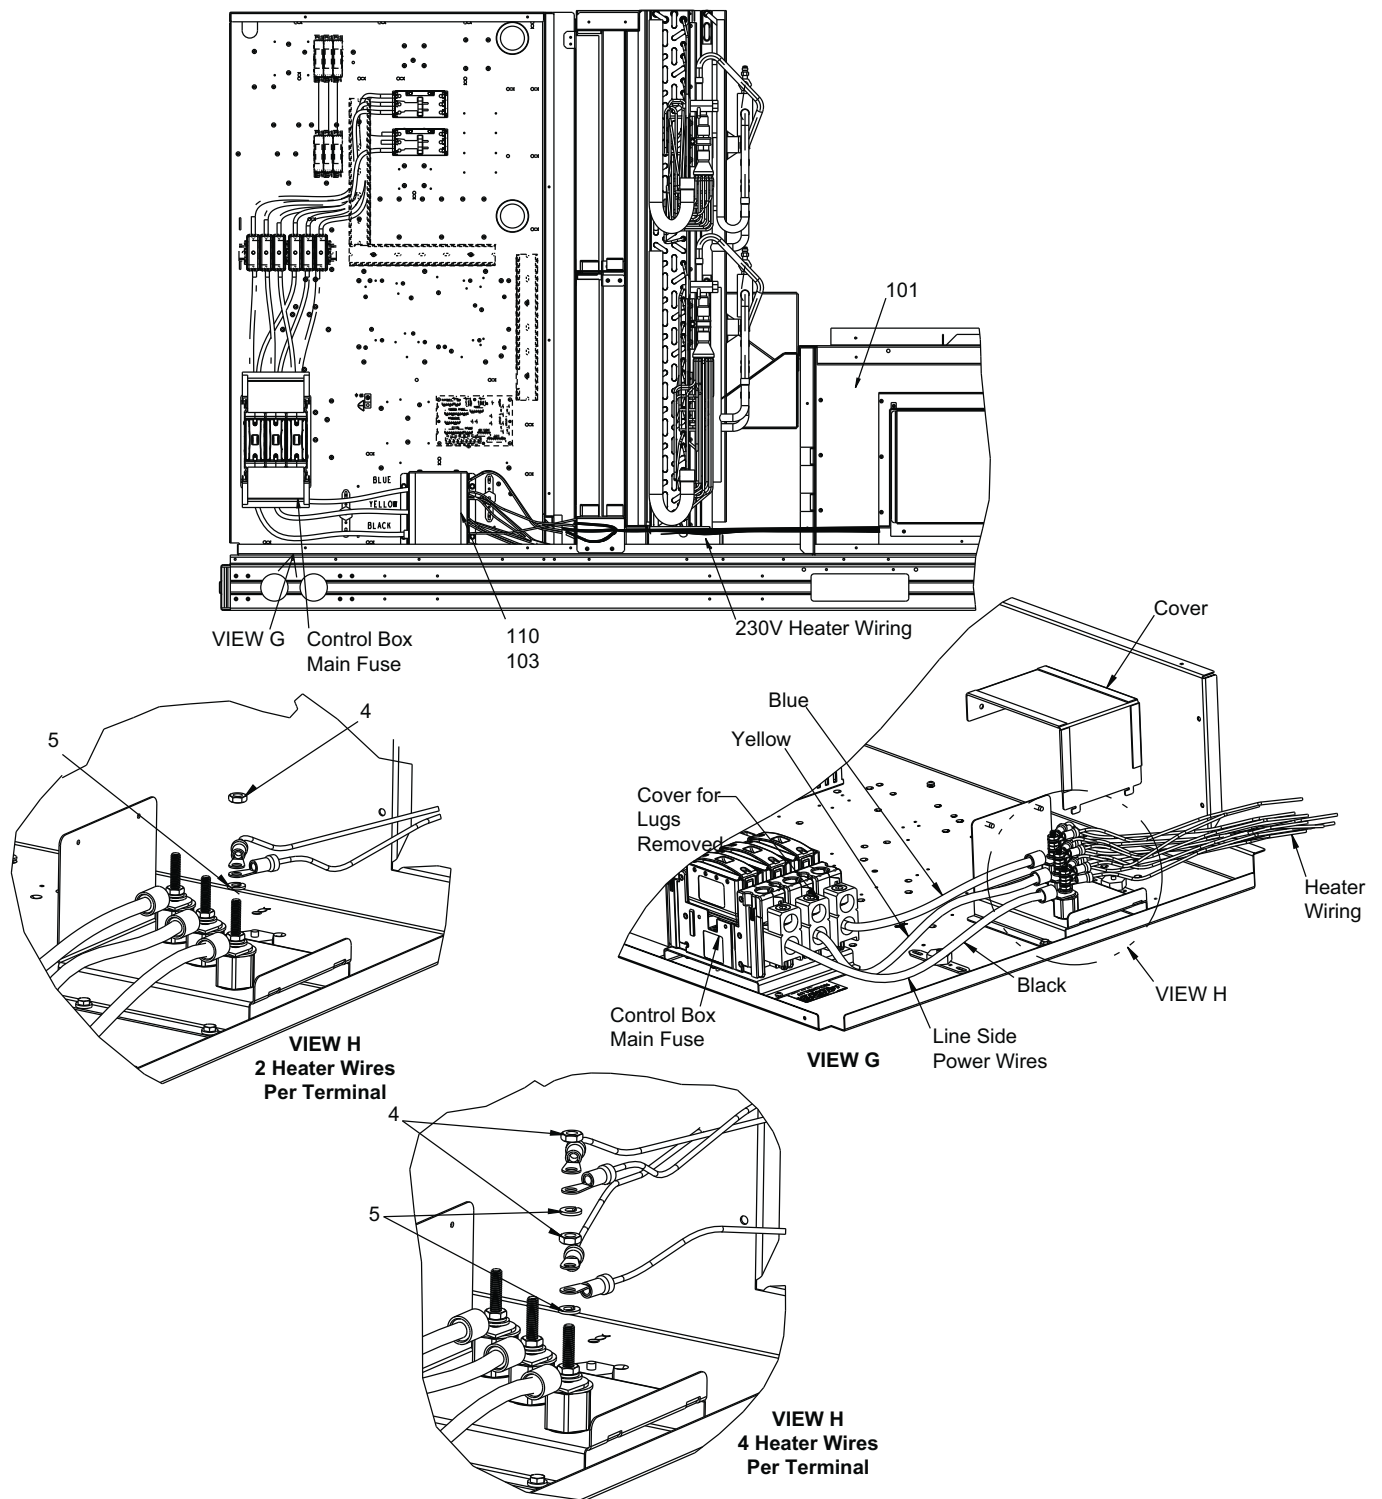

Fig. 44 — 230V Single Point Power Assembly Location (High SCCR)
1. Install terminal block assembly in location shown in Fig. 44.
For 4 wire/leg assembly: add lock washers (Item 5), turn bottom two wires so barrel of terminal is down as shown in Fig. 44. Add nut (Item 4) and tighten to 9-10 Nm (79-88 in.-lb). Add second lock washer (Item 5), the top two wires shall be installed with barrels "up." Add second nut (Item 4) and tighten to 9-10 Nm (79-88 in.-lb).